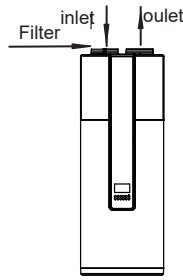

Fig.3-14
- 5) Filter installing at the unit inlet. In terms of the unit with duct, filter in there must be put on the position of duct inlet. (Fig.3-14/3-15)